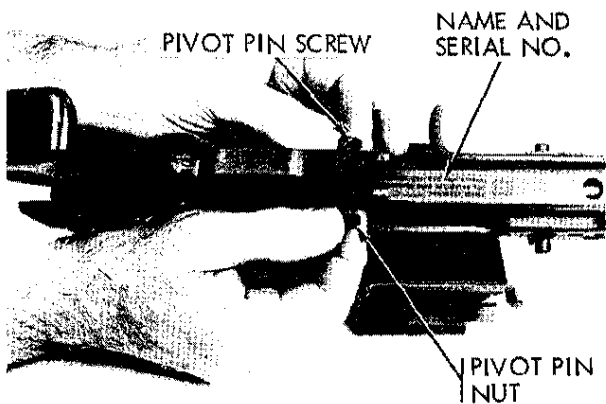

FIGURE 10. REMOVING PIVOT PIN SCREW AND PIVOT PIN NUT
- (1) Unscrew the pivot pin screw from the pivot pin nut, and remove (fig. 10).
- (2) Remove the trigger housing group from the receiver group.